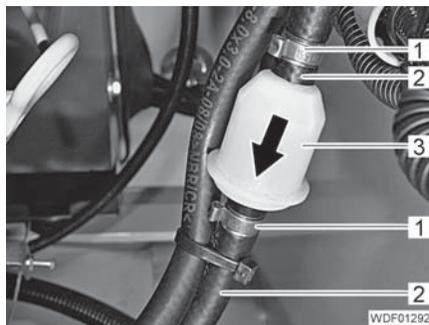

Fig. 90 Fuel pre-filter
- Close off the fuel lines (Fig. 90,2).
- Remove the 2 clamps (Fig. 90,1).
- Pull off the fuel lines and remove the fuel pre-filter (Fig. 90,3).
- Attach the fuel lines (Fig. 90,2) with clamps (Fig. 90,1) to the fuel pre-filter (Fig. 90,3) so that the direction of flow (arrow) points towards the engine.
- Secure the 2 clamps (Fig. 90,1).